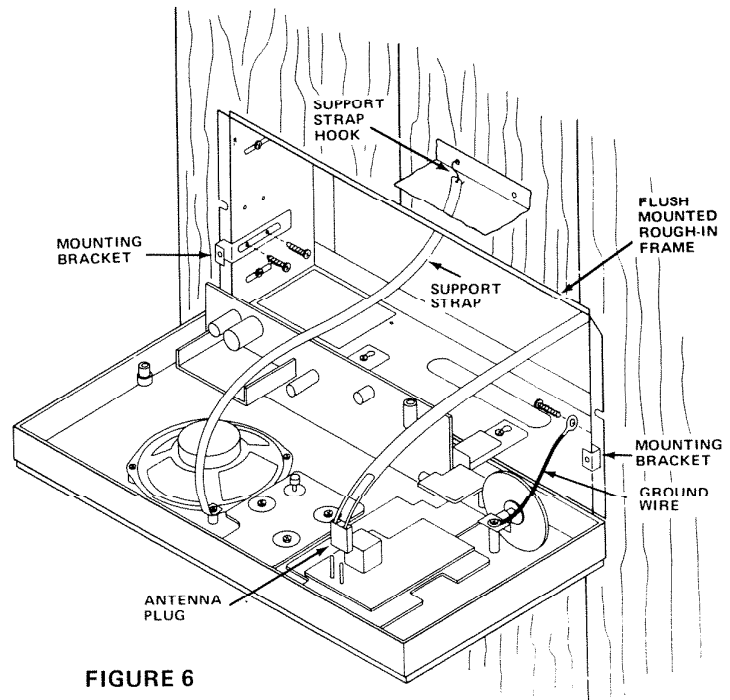

FIGURE 6
6. Attach support strap to rough-in by placing hook into hole in rear flange of rough-in frame. See Figure 6.
7. Use two No. 6 x 3/8" screws to attach mounting brackets to rough-in frame. Secure ground wire lug under one screw in the right side bracket. **Make sure brackets flush to wall or rough-in.** See Figure 6.
8. Place antenna plug onto two pins on tuner board. See Figure 6.